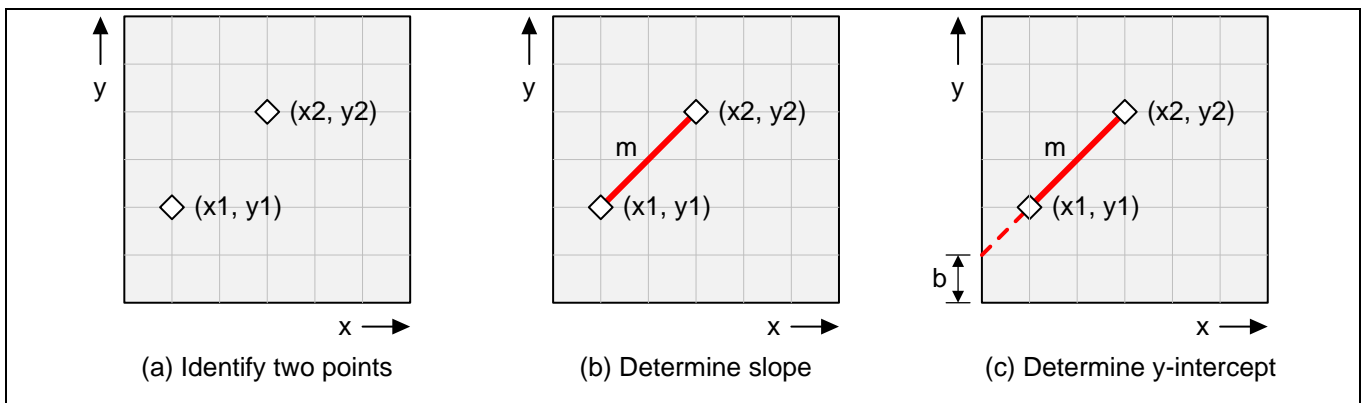

Figure 6 Determining the characteristics of a straight line
One way in which the characteristics of such a line can be determined is to first identify two points as illustrated in Figure 6(a).
Once the slope has been determined as illustrated in Figure 6(b), this value can be used to calculate the y-intercept (b) as illustrated in Figure 6(c). This can be accomplished by picking the (x,y) values for any point and solving for the y-intercept using Equation (3).